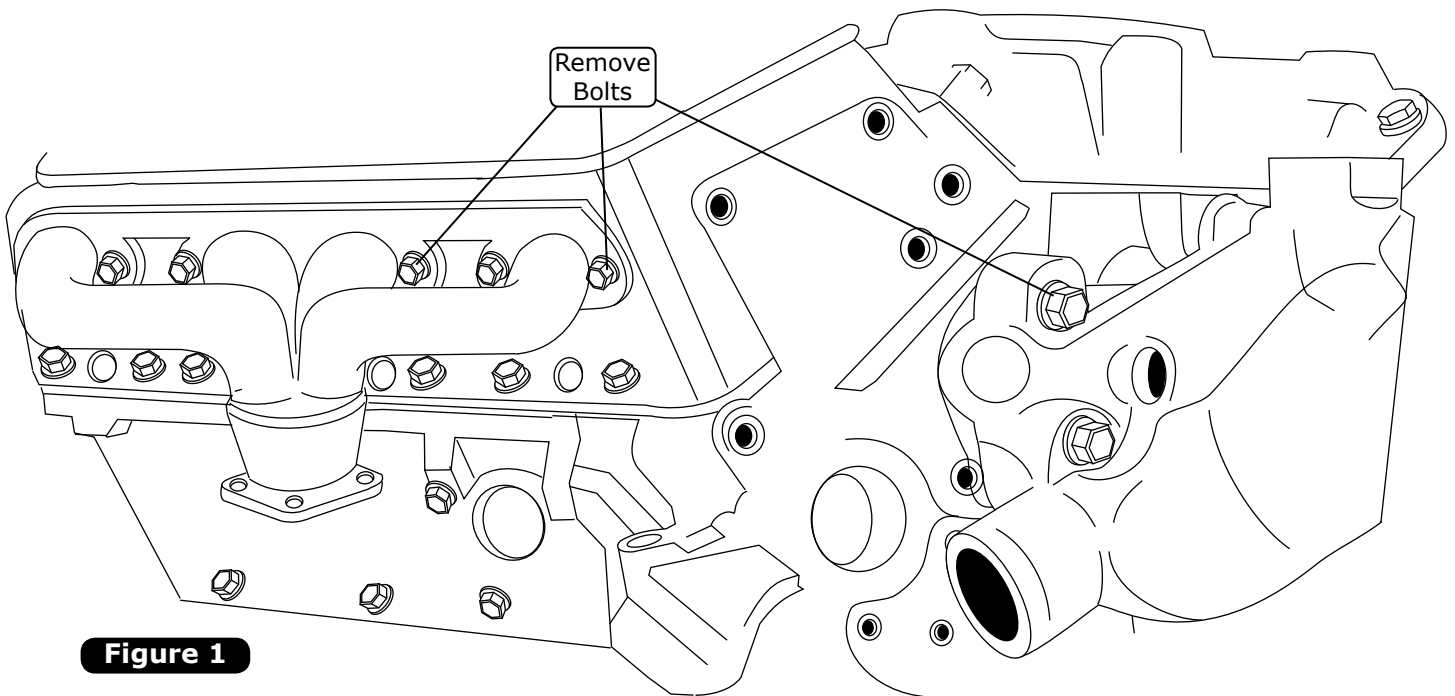

Figure 1
1. Remove the top passenger side water pump mounting bolt (discard) (See Figure 1, below).
2. Remove the first and third passenger side header bolts (discard) (See Figure 1, below).